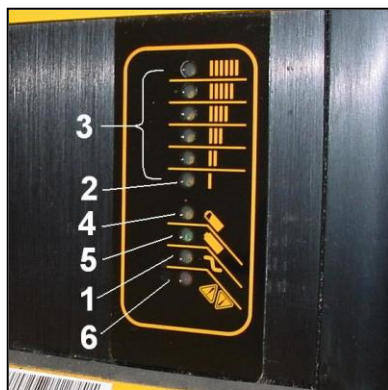
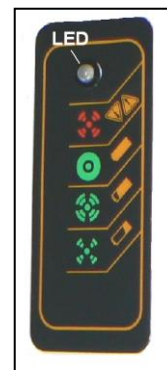

Figure 4.5A
Figure 4.5B
All current production Columbia 24/36/48 volt electric vehicles are built with a new solid state on-board, fully automatic Delta-Q Battery Charger (Figure 4.5A) as standard equipment. This section explains in more detail the Delta-Q Charger Operations. The Delta Q charge status can be found in two locations. On the Delta Q face and on a remote multicolored LED (Figure 4-5B). This LED and descriptive label will located near the Charger Receptacle.
Connect the supplied power cord to the vehicle charger receptacle and to a properly grounded wall outlet. Charger start and charge time is automatic. The Yellow AC power LED (Fig. 4.5A No. 1) should remain illuminated while the Charger is plugged into an AC source. The remote LED will be flashing short green. If these LED's are not lit, before replacing Charger, recheck the AC connection and the AC source fuse or breaker. If this fails to correct the problem, contact your Columbia Dealer for assistance.
Charger will automatically turn on and conduct a short self-test and battery pack test. All Delta Q LED's will flash in sequence and then a trickle current will be applied to batteries until a minimum voltage is reached. In Figure 4.5A No. 3 indicates the Bar Graph and No. 2 indicates the lowest LED. Three (3) amperes is displayed as the lowest LED on the Bar Graph.
NOTICE: If the batteries are excessively discharged, the Delta-Q Charger will not be able to charge the complete set of batteries. The Delta-Q RED FAULT LED (Fig. 4.5A No. 6) and the remote LED will be flashing red.(see Section 4.5.2 Red Light Charger Error Codes). It will then be necessary to follow the Special Charging for Excessively Discharged Batteries, Section 4.6.
When the Yellow 80% LED (Fig 4.5A No. 4) is lit, the Charger has completed the bulk stage and the batteries are at approximately 80% state of charge. The 80% LED remains on as the last 20% of charge is returned to the batteries in the second phase (constant voltage phase). At this time the remote LED will flash long green.
Charge completion is when the 100% Green LED is lit (Fig. 4.5A No. 5). The remote LED will be green.
NOTICE: A Yellow (Amber) flashing LED in the upper Bar Graph (Fig. 4.5A No. 3) and a flashing yellow remote LED indicates the thermostatic control has limited the Charger output due to ambient temperature conditions. It is still charging, but at a reduced rate.
Be sure to charge all of the batteries in the set. Each battery may require two to three hours of charging to bring it back to serviceable condition. After all batteries have been individually charged, remove the automotive Charger and restart charging with the Delta-Q Charger (Section 4.5.1). It may require several 8-12 hour cycles for bring severely discharged batteries back to 100% charged condition. If again the Delta-Q Charger has the RED FAULT LED (Fig. 4.5A No. 6) flashing there is a problem with one or more of the batteries.